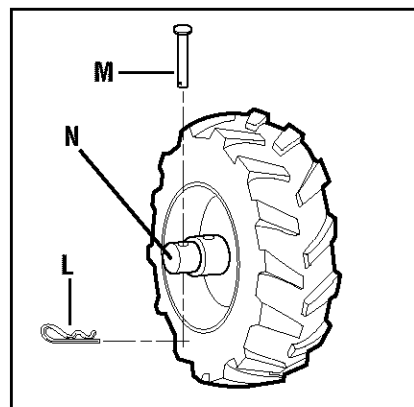

Fig. 2-3: Wheel in FREEWHEELING position (wheel drive pin through wheel shaft only).
2. Remove the hairpin cotter (L, Fig. 2-3) and wheel drive pin (M). Slide the wheel inward on the wheel shaft (N). Reinstall the wheel drive pin and hairpin cotter through the wheel shaft only (not through the wheel hub). Repeat with the other wheel.